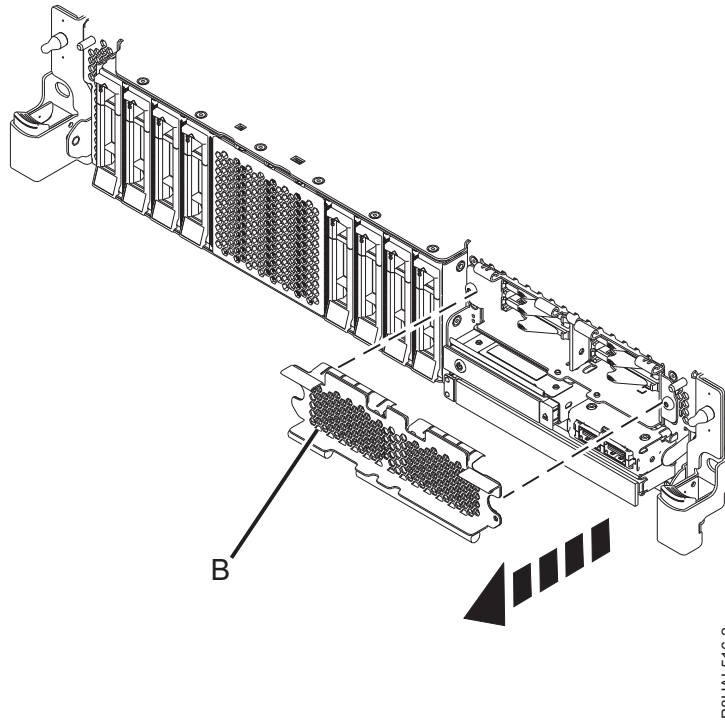

Figure 42. Removing the SSD cage cover to access the SSD slots in an expanded function system
10. To access the SSD slots, remove the perforated plate **(B)** covering the SSD cage as shown in Figure 42 on page 44.